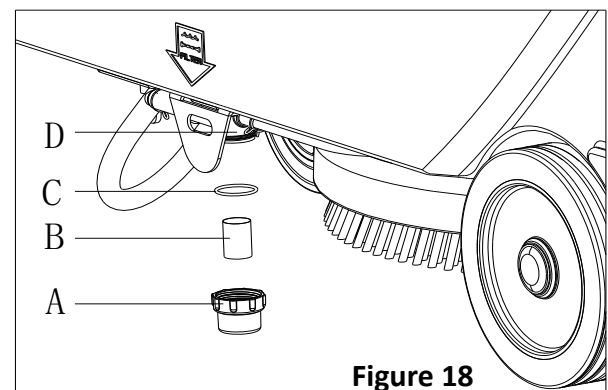

Figure 18
4. Take down the solution filter cover (A, Figure 18) to clean the filter screen (B), and then fix them back to the filter support (D).